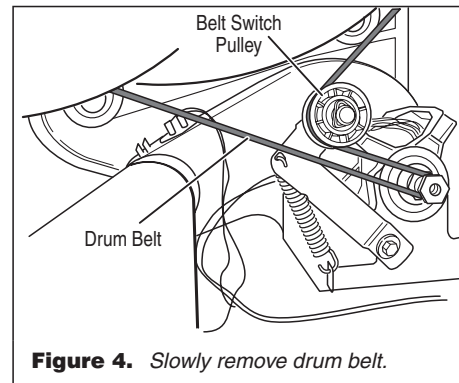

Figure 4. Slowly remove drum belt.
5. Check the belt switch and motor. Access the belt switch and motor by removing the back panel. See Removing the Back Panel, page 8. Slowly remove the drum belt from the spring-loaded belt switch pulley, gently letting the belt switch pulley down. See figure 4.